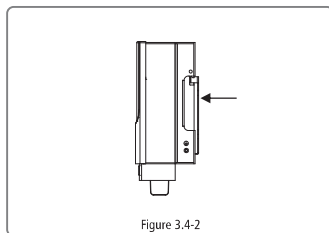

Figure 3.4-2
- Hold the hybrid converter by the side groove as Figure 3.4-2.